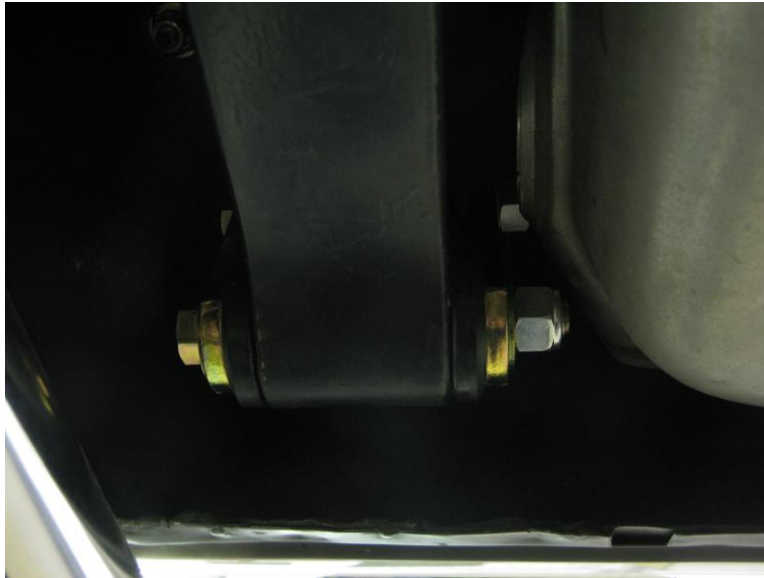

Figure 4 – Rear Leaf Spring Shackles Installed
5. Move to the rear leaf springs; install the rear shackles and 1/2"-20 x 5" L Hex Head bolts to mount the leaf springs to the frame using the 1/2" Nylock nuts and AN washers. Install the bolts from the outside of the frame rail so that your Nylock nuts will be on the inside closest to the fuel tank. [See Figure 4]